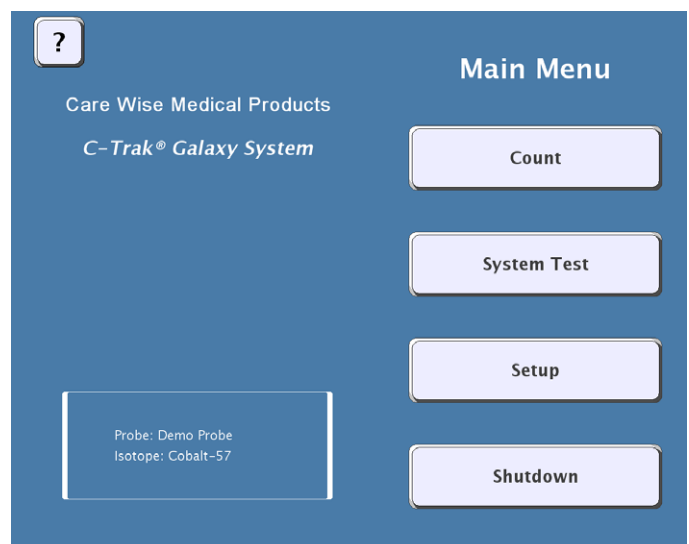
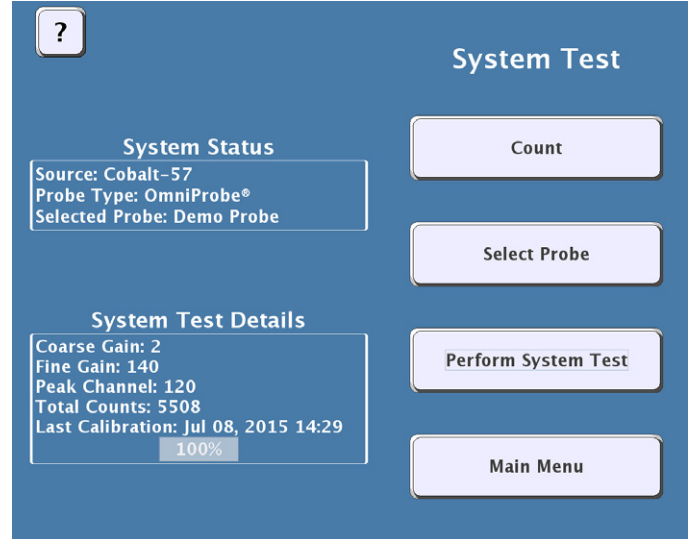

Figure 11 – Main Menu Screen
Figure 12 – System Test Screen
- (8) **Main Menu Button** – Pressing this button directs the user to the MAIN MENU [Figure 11], described in 2.4-6.
The Main Menu [Figure 11], allows the user to navigate to the Count Screen (described in 2.4-1), System Test Screen (described in 2.4-7), and Setup Screen (described in 2.4-8), and also allows the user to turn off the C-Trak® Galaxy System’s power using the “Shutdown” button, (described in 2.4-13).
On the System Test Screen [Figure 12], reached from the Main Menu [Figure 11], a user can calibrate and test all functionality of the Galaxy system. When a user presses the PERFORM SYSTEM TEST, the Galaxy system will both calibrate and test the system.